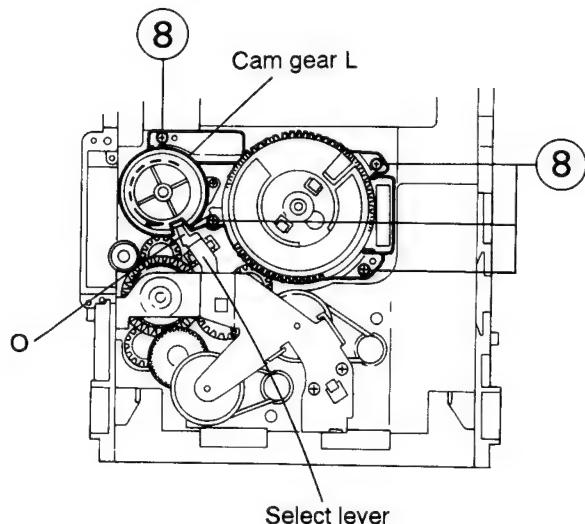

Fig. 5-39
- Remove the four screws (8) retaining the cam unit (cam gear L and cams R1/R2 assembly) (See Fig. 5-39).